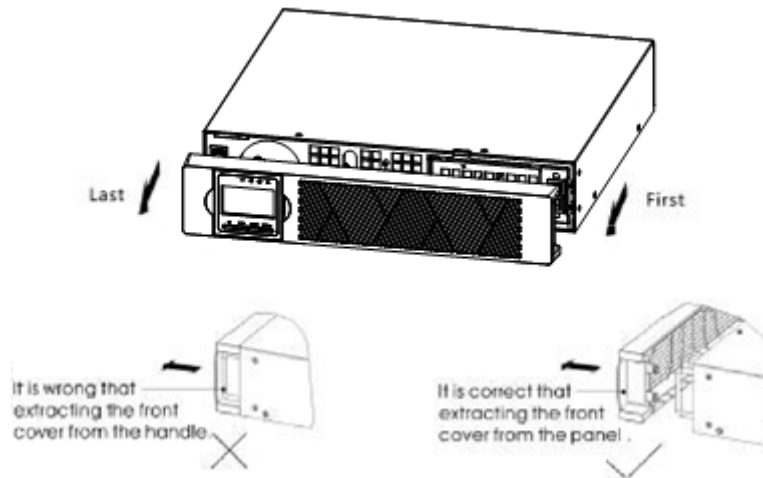

Figure 8: Removing the EBP Front Cover
- (1) To install the optional EBP(s) for a UPS**
a) Remove the front cover of each EBP and UPS (see Figure 8).